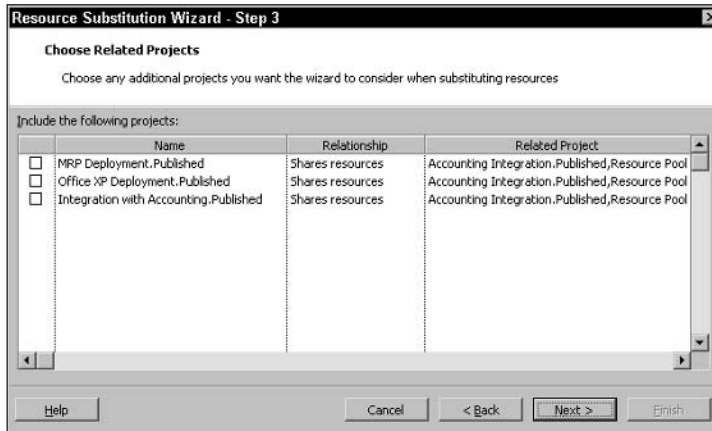

Figure 20-24: Select other related projects that you want the wizard to consider when rescheduling resources.
- Choose related projects to consider when rescheduling (see Figure 20-24). Click Next.